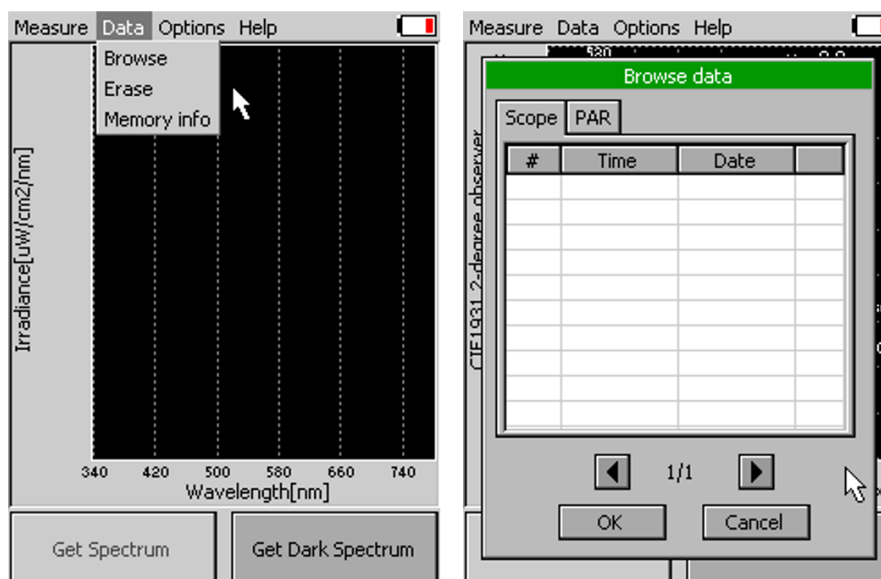

Fig. 9 Data browse.
- **Browse** (Fig. 9) – displays data browse dialog box. The user can browse the list of stored data, select the set of data files and view the light spectra in **Scope** mode. Colour classification of each data file helps the user to discriminate between individual measurements. **PAR** bookmark allows the user to view the light intensity in PAR spectral region for the acquired data. PAR is photosynthetically active radiation integrated in range 400-700nm.